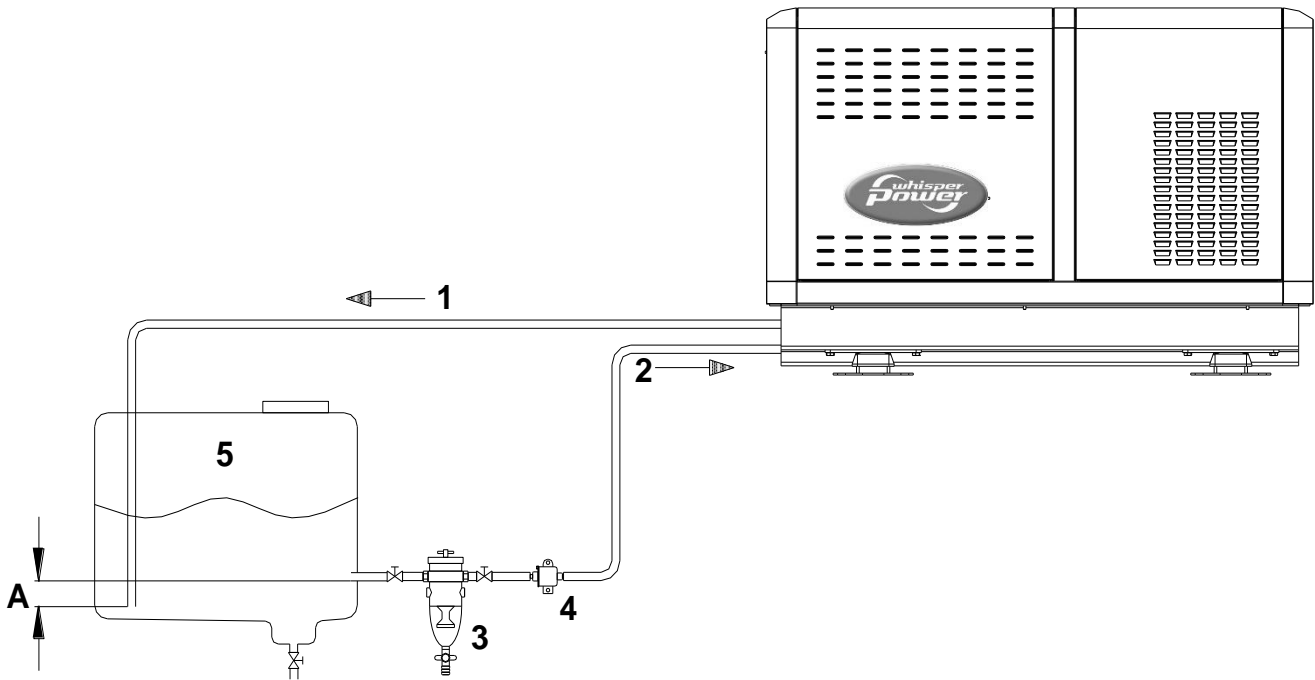

Fig. 4: Fuel supply
When the tank is below the generating set we recommend ending the return line on the bottom of the tank (A) below the inlet of the supply line (see figure 4)